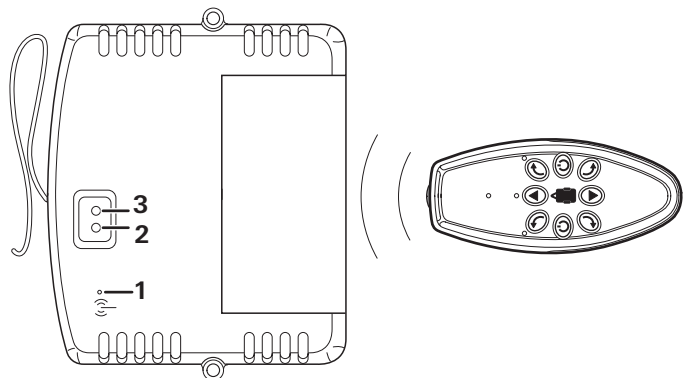

Figure 12
- Press the reset button (Figure 12 - 1) on the remote control with a thin object. The antenna of the control unit can be used for this. The green and red LEDs (Figure 12 - 2/3) on the remote control now flash alternately.